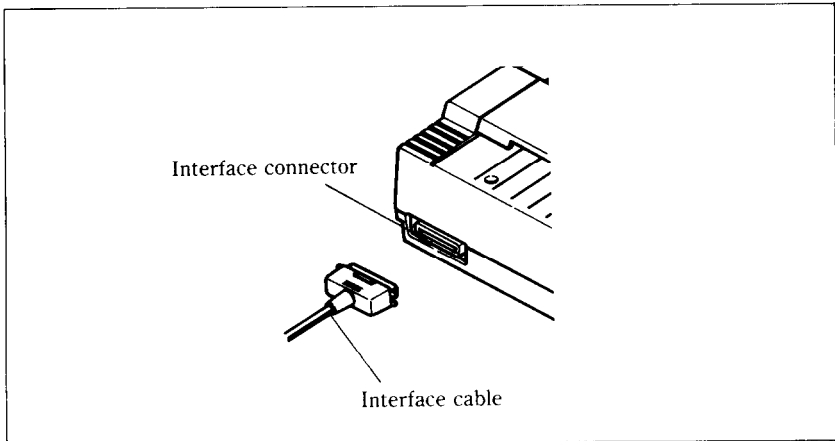

Figure 2-12. Connect the cable like this.
2. Connect the printer end of the interface cable to the connector socket at the right rear of the printer as shown in Figure 2-12.